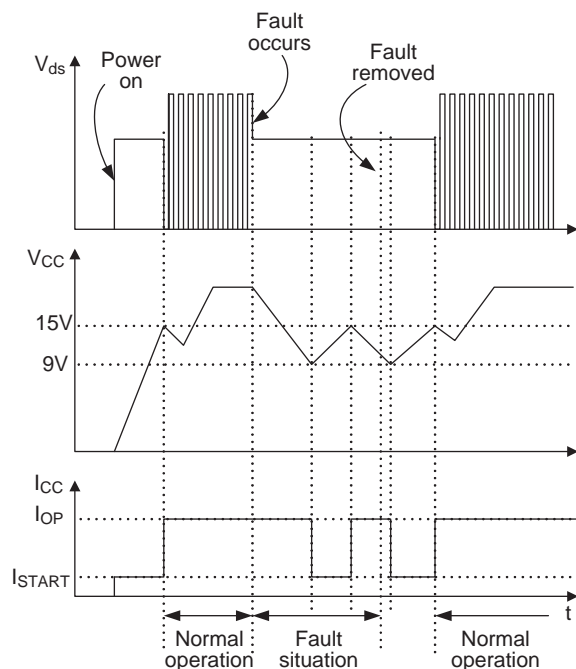

Figure 12. Auto Restart Mode Protection
– **Auto-restart mode protection:** Once the fault condition is detected, switching is terminated and the SenseFET remains off. This causes  $V_{CC}$  to fall. When  $V_{CC}$  falls to the under voltage lockout (UVLO) stop voltage of 9V, the protection is reset and the FSCQ-Series consumes only startup current (25μA). Then, the  $V_{CC}$  capacitor is charged up, since the current supplied through the startup resistor is larger than the current that the FPS consumes. When  $V_{CC}$  reaches the start voltage of 15V, the FSCQ-Series resumes its normal operation. If the fault condition is not removed, the SenseFET remains off and  $V_{CC}$  drops to stop voltage again. In this manner, the auto-restart can alternately enable and disable the switching of the power SenseFET until the fault condition is eliminated (see Figure 12).